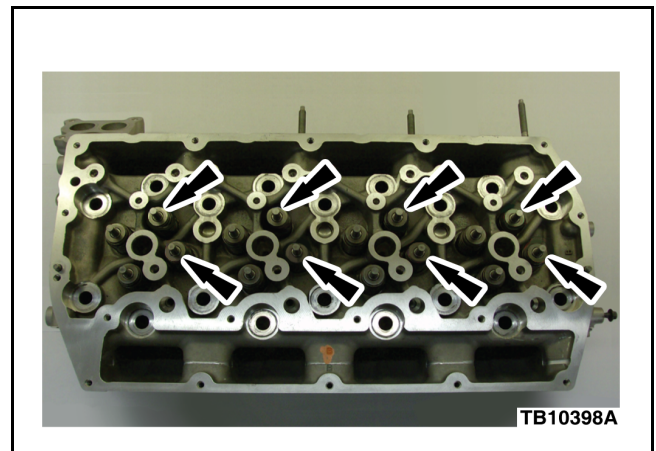

Figure 1 - Article 13-5-17
4. Replace all eight (8) exhaust valves and valve seals. Refer to WSM, Section 303-01. (Figure 1)